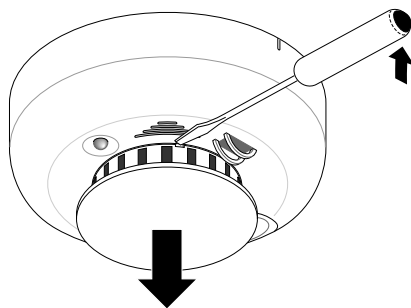

Figure 4 - Removing Alarm/Detector Cap
4. Slide a flat-blade screwdriver in the slot on the alarm/detector cap and gently push the handle down to pry the alarm/detector cap up and off. See Figure 4.